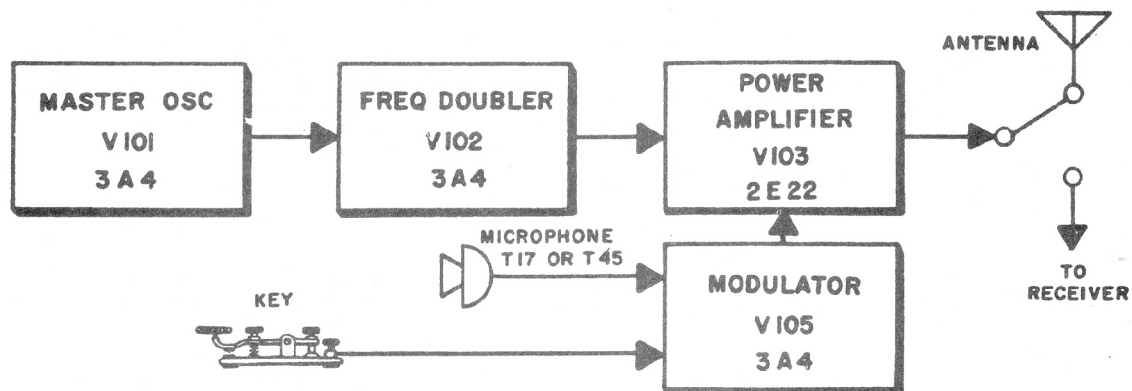

Figure 2. Block diagram of transmitter section of RT-77/GRC-9.
a. Figure 2 is a block diagram of a typical AM transmitter. Actually it's the transmitter section of Receiver-Transmitter RT-77/GRC-9. When you speak, voice frequencies detected by the